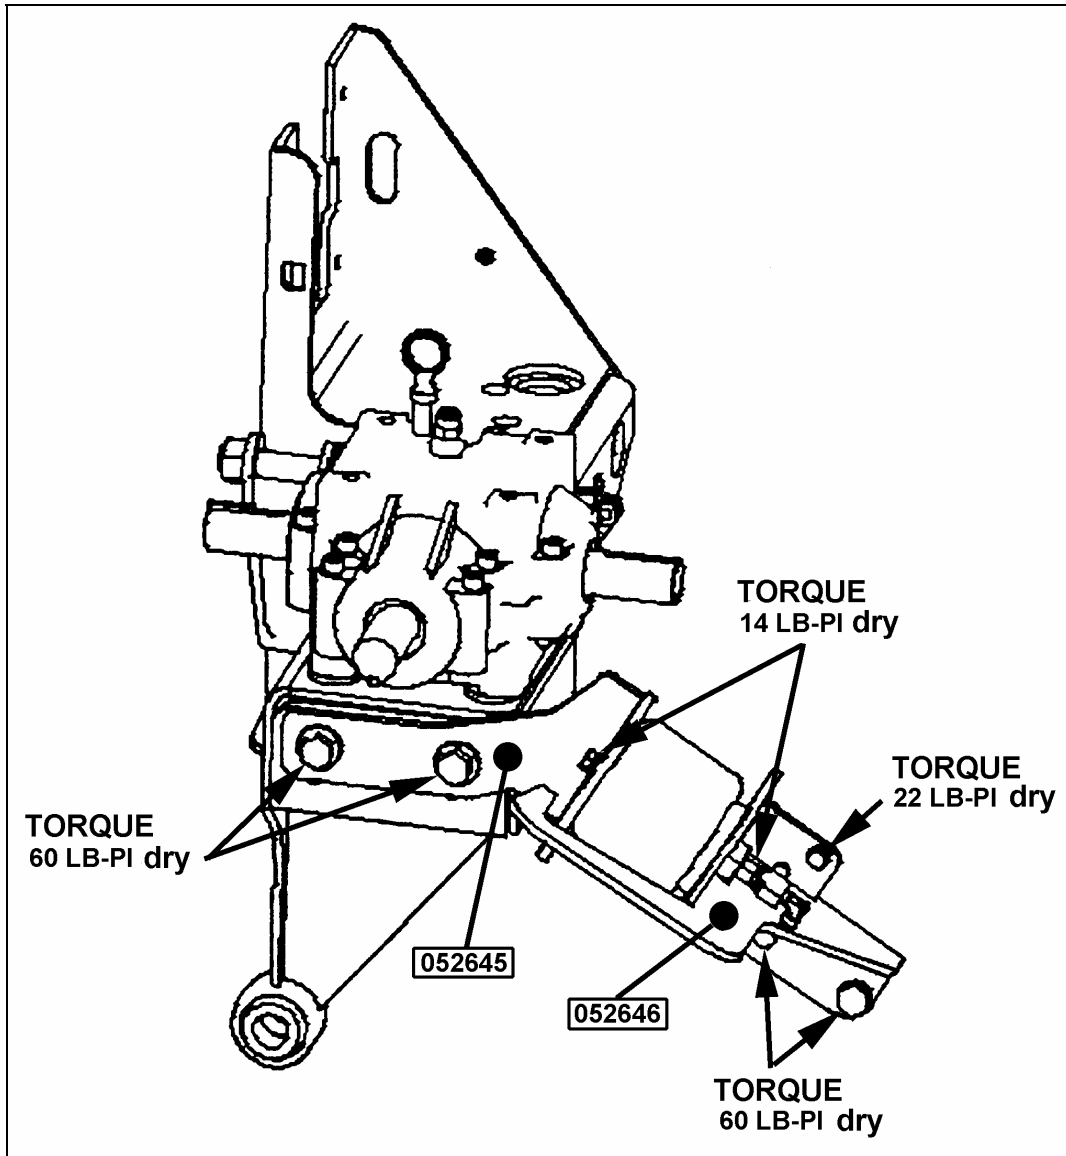

FIGURE 5
3. Dismount the air bellows attachment brackets (Refer to figure 5).
4. Reinstall the air bellows with the new attachment brackets (052645 & 052646). Tighten the bolts to the specified torque as per figure 5.